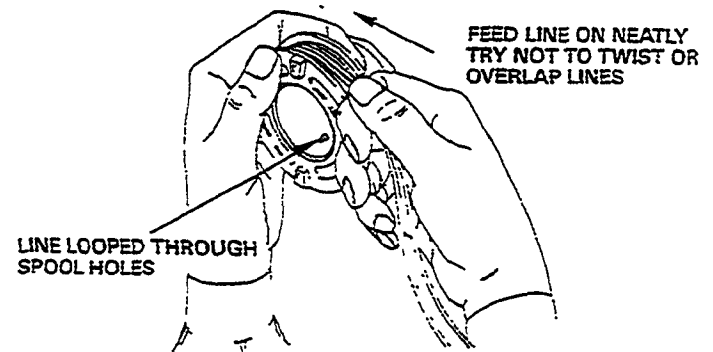

Figure 15
- Loop the line through holes in the spool (Fig. 15) and pull out evenly.
- Insert each line into its respective linesaver, and place spool into the head body (Fig. 15). **Note:** Do not allow lines to slip beneath the spool.